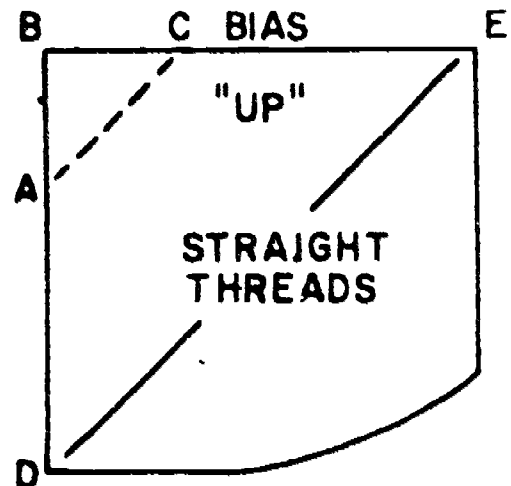

Figure 10. Layout of Material.
Note: The side of the template marked "up" must be facing up when the pattern is drawn on the material. Sides B-D and B-E, Figure 10, should be ON THE BIAS, the straight threads running from D to E.
5. Place the $1\ 3/4$ " nylon reinforcement tape on the flap so the selvage edge of the tape falls on a straight line from notch A to notch C, Figure 10, on the side of the pattern marked "up".
7. Turn the flap over so the underside is facing up, then machine baste $1/8$ " from the cut edge of the cotton duck from A to B and end at C, Figure 10.